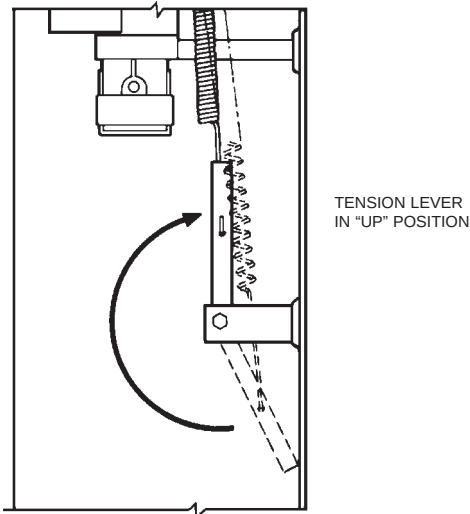

FIGURE 8-6
19. Raise tension lever to "UP" position. See Figure 8-6.